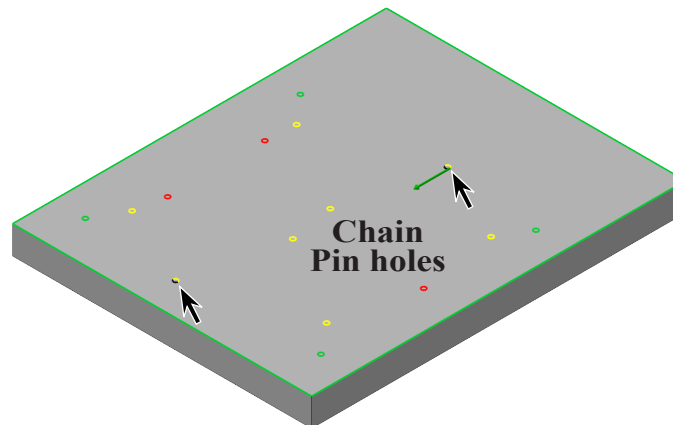

Fig. 16
Step 2. Click **both Pin holes (magenta)** to chain, **Fig. 16**.